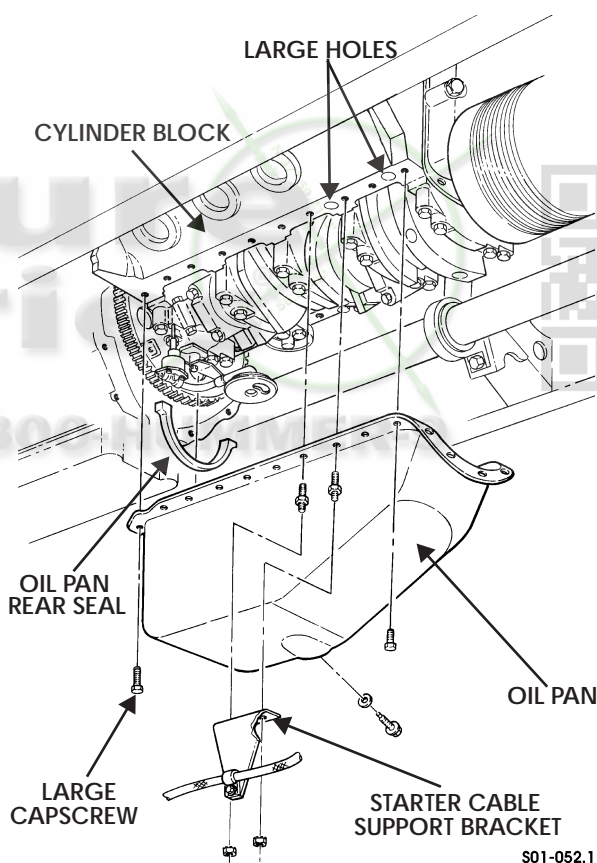

Figure 1-40: Oil Pan
5. Remove two nut and lockwasher assemblies and starter cable support bracket from studs. Discard nut and lockwasher assemblies (Figure 1-40).
Clean any sealant remains from oil pan and cylinder block mounting surfaces (Figure 1-40).
1. Install oil pan rear seal on oil pan (Figure 1-40).
2. Apply a 3/16 in. (5 mm) bead of silicone sealant around two large holes on cylinder block and around oil pan sealing surface (Figures 1-40, and 1-41).
3. Install oil pan on cylinder block with two studs, large capscrews, and twenty capscrews. Tighten large capscrews to 13-20 lb-ft (18-27 N•m). Tighten studs and capscrews 4-10 lb-ft (5-14 N•m) (Figure 1-40).